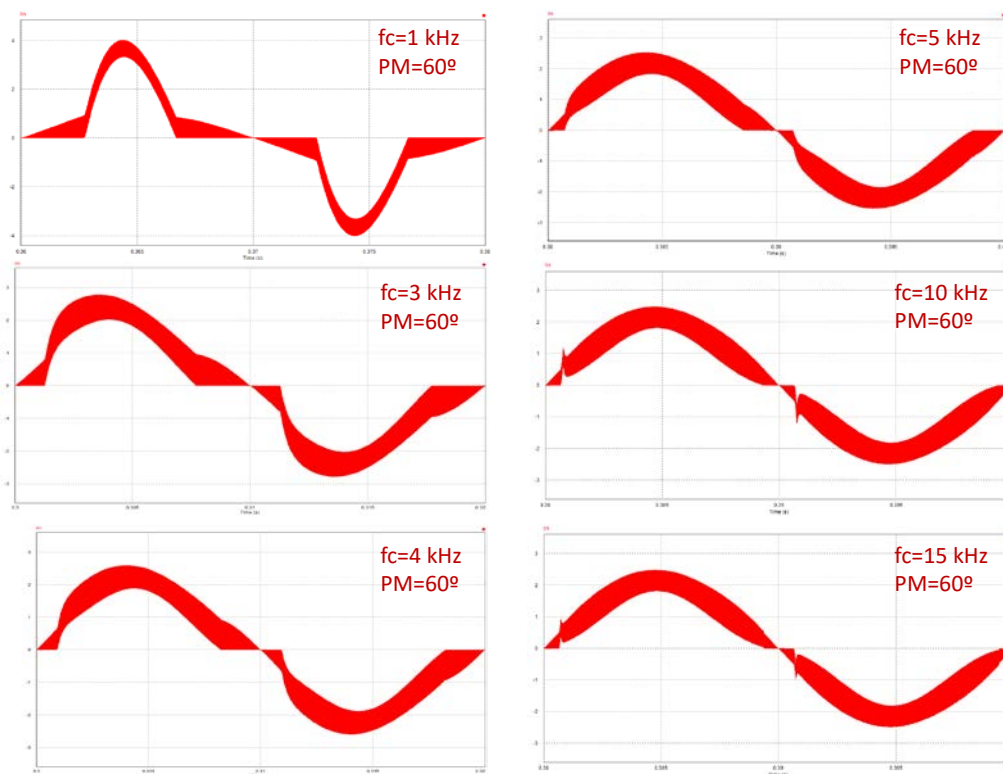

Figure 30: Zero-crossing distortion with different compensators in the current loop
To illustrate this problem related with the low cross-over frequency of the inner loop, a comparison between several designs of the inner loop with different phase margin (PM) and cross-over frequency ( $f_c$ ). The input current waveforms achieved with these designs are compared in Figure 30.